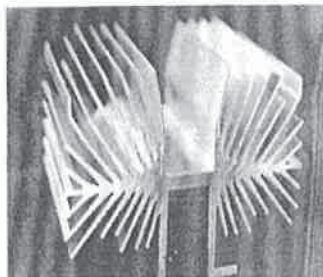

Figure Pr1
c) What manufacturing process would you suggest for mass production of parts with cross section shown in Figure Pr1. Justify your answer.